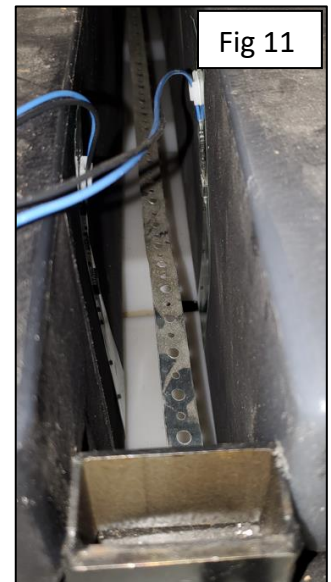

Fig 11
10. Connect Sensor Harness to the three installed sensors. (Figure 11)